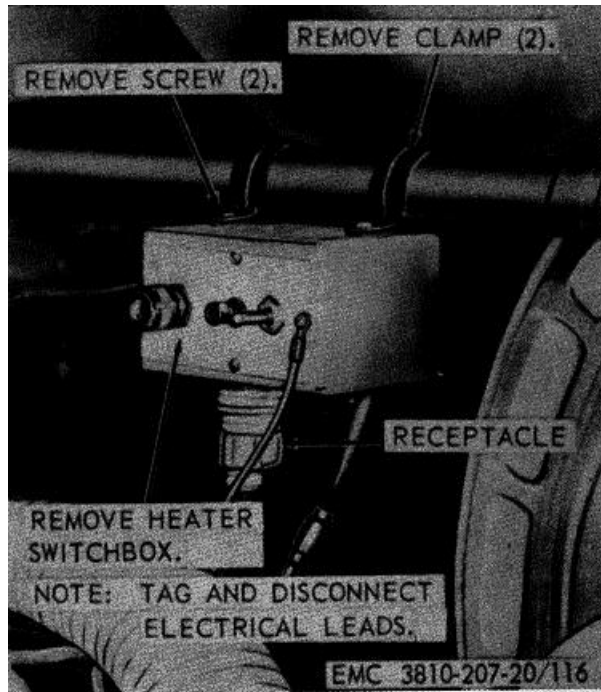

Figure 116. Heater switchbox, removal and installation.
a. Removal. Remove the heater switchbox as instructed on figure 116.
e. Installation. Install the heater switchbox as illustrated on figure 116.